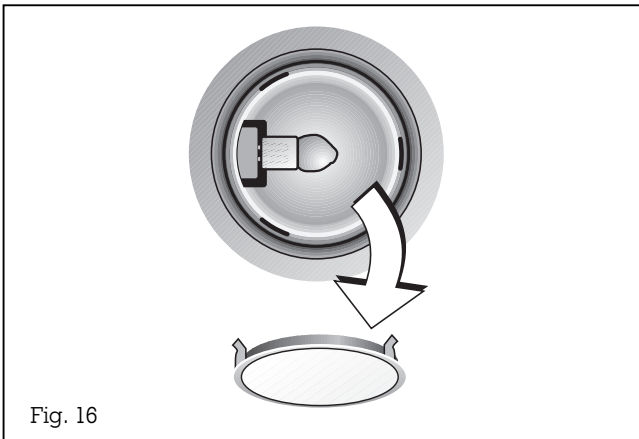

Fig. 16
**Note:** Make sure that the glass will not fall out (Fig. 16).